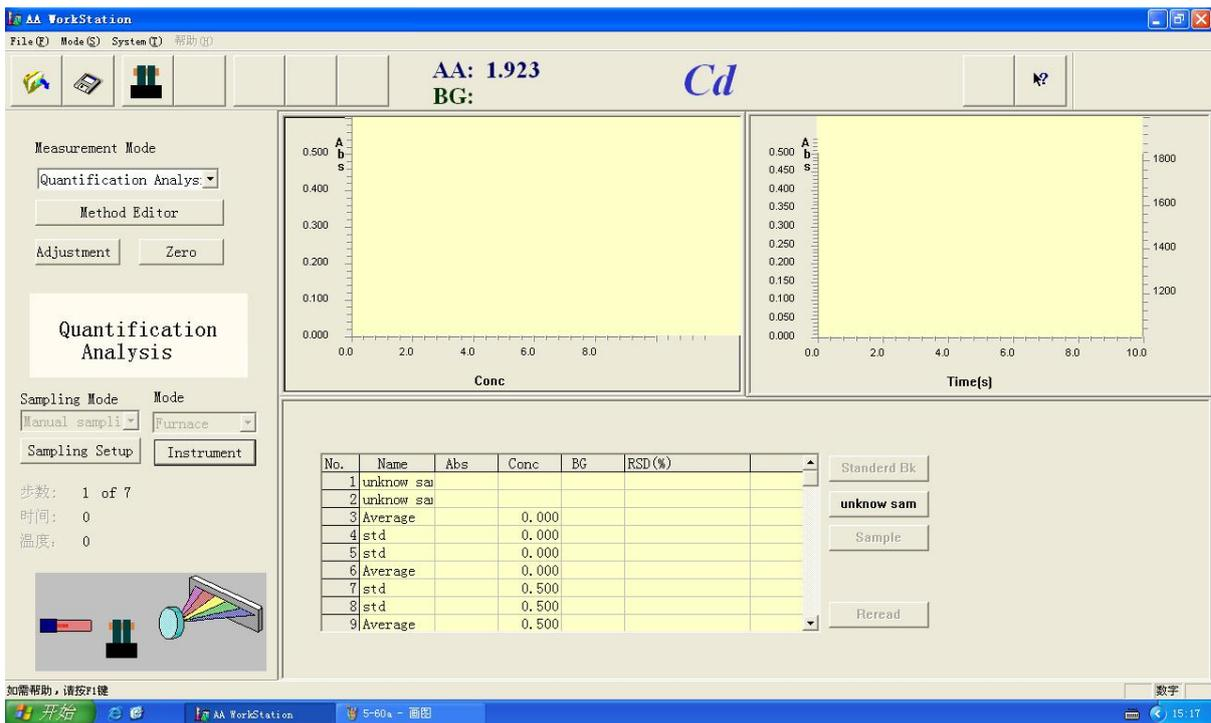

Figure 5-55
6. Press 【OK】 ,close the dialog,"Standard BK"brighten,figure 5-55